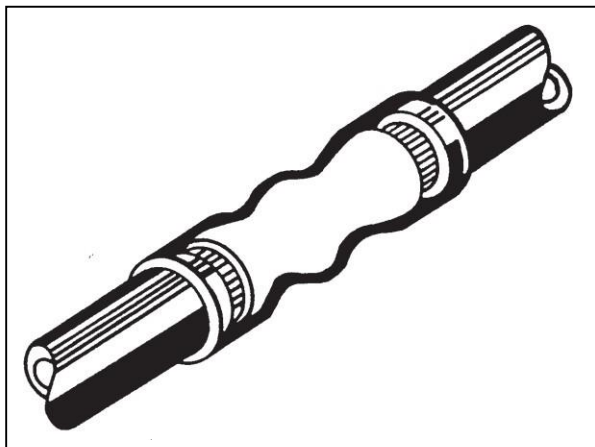

Figure 28
3. Crimp the splice sleeve on each end. Each wire must be crimped individually. For proper placement, see Figure 28.